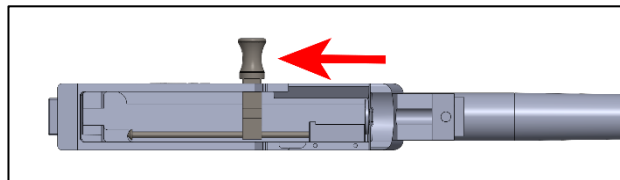

Figure 30
- While maintaining the correct position of the charging handle assembly, grasp the charging handle and fully retract it rearward – Figure 30. The use of a flat bladed screwdriver may help with fully compressing the spring.